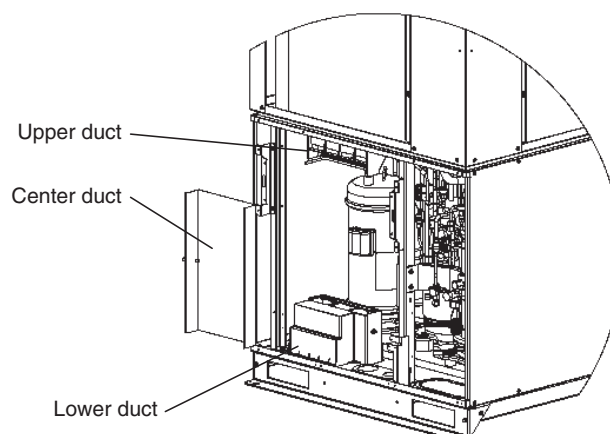

Fig. 5
- (6) Remove the center duct. (Fig. 5)